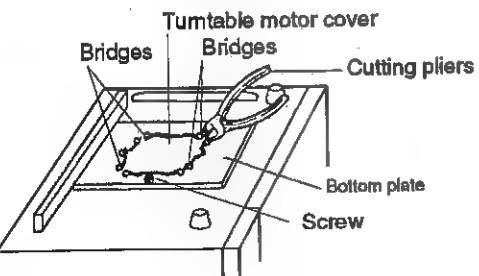

Figure C-3(a). Turntable Motor Cover Removal
4. Cut the four (4) bridges holding the turntable motor cover to the bottom plate L with the cutting pliers as shown in Figure C-3 (a).
2. Remove the single (1) screw on the bottom plate as shown in Figure C-3 (a).